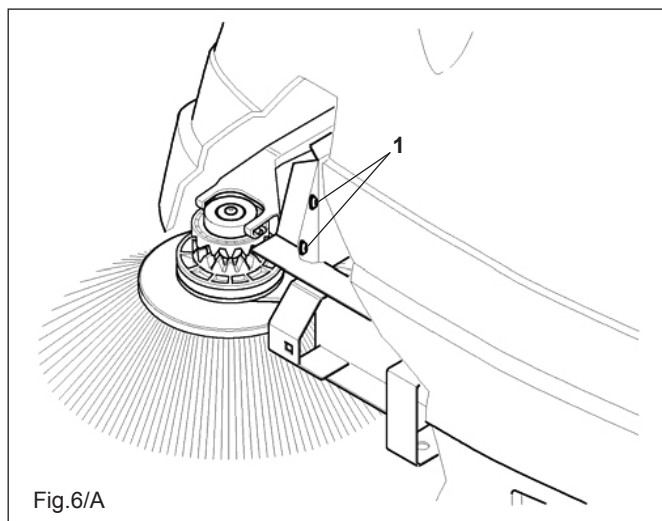

Fig.6/A
The side brush is adjusted by slackening the screws **pos.1 Fig.6/A** and using the slots to position the brush at the required height. Once you have positioned it, tighten the two screws.
Replacing (Fig.6/C)